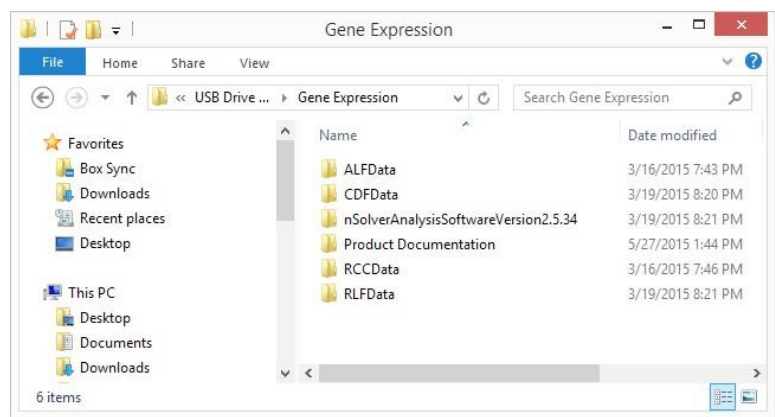

Figure 48: Example file folders stored on a USB flash drive.
- Three read-only folders for Cartridge Definition Files (CDFData), Reporter Library Files (RLFData), and Reporter Code Count files (RCCData) (**Figure 48**).